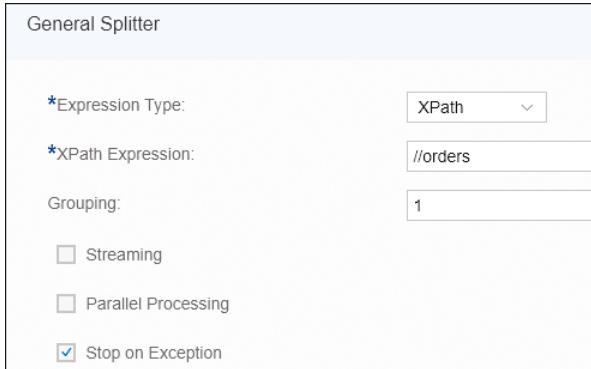

Figure 6.21 Deselecting the Streaming Checkbox in the General Splitter Dialog Box
- In the **General Splitter** dialog box, deselect the **Streaming** checkbox (Figure 6.21).